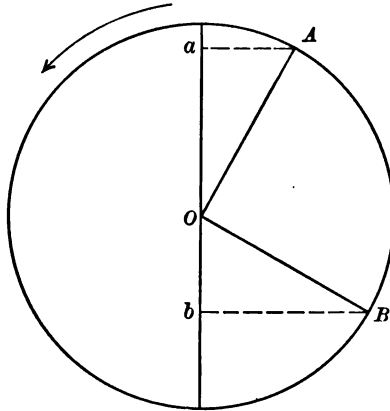

FIG. 2
**SUGGESTION.** — The rotating vectors  $OA$  and  $OB$  (Fig. 2) may represent the maximum values of the electro-motive forces in the 2 armature circuits,  $Oa$  being the instantaneous value of the electro-motive force in one circuit at a certain instant, and  $Ob$  the contemporaneous value of the electro-motive force in the other circuit. The sine waves may be drawn separately, each with reference to its particular vector.